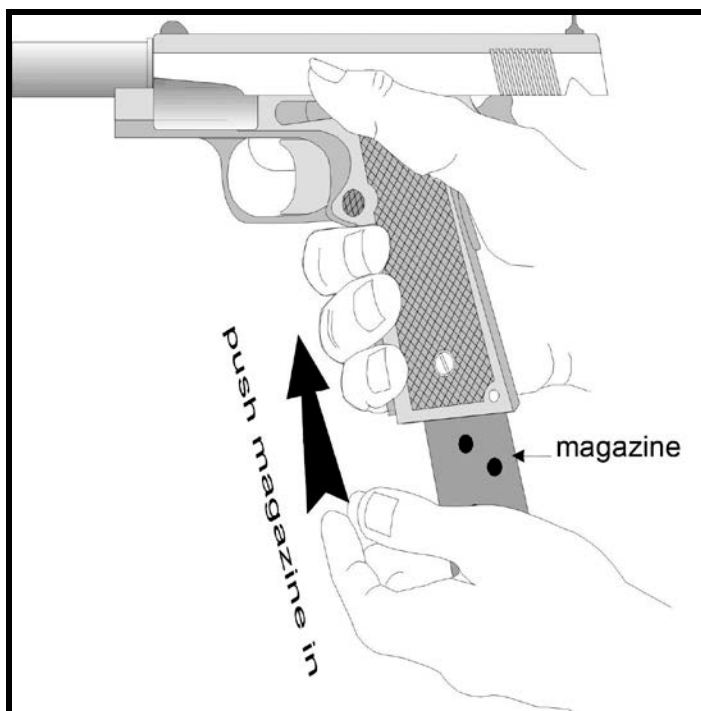

Figure 117. Inserting a magazine to load a semi-automatic
- Lock the slide to the rear, normally by inserting the slide lock into the slide stop notch, where possible (Figure 117).